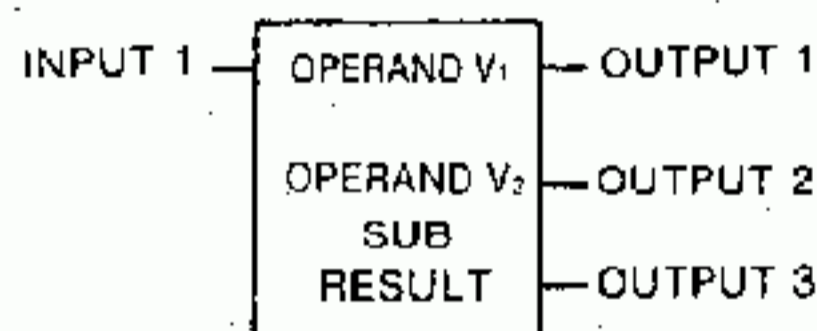

Fig. 4.21 SUB General Form
- Fig. 4.21 shows the form of subtraction (SUB).